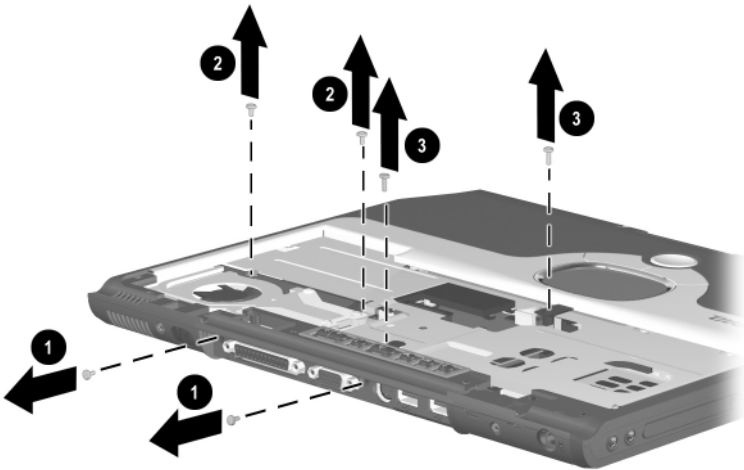

Figure 5-23. Removing the Top Cover Screws
- a. Two PM2.0 × 5.5 screws ❶ that secure the top cover to the base enclosure on the computer rear panel (Figure 5-23)
- b. Two PM2.0 × 4.0 screws ❷ that secure the top cover to the base enclosure through the metal tabs on the top cover shield
- c. Two PM2.0 × 8.0 screws ❸ that secure the top cover to the base enclosure through the plastic tabs on the top cover